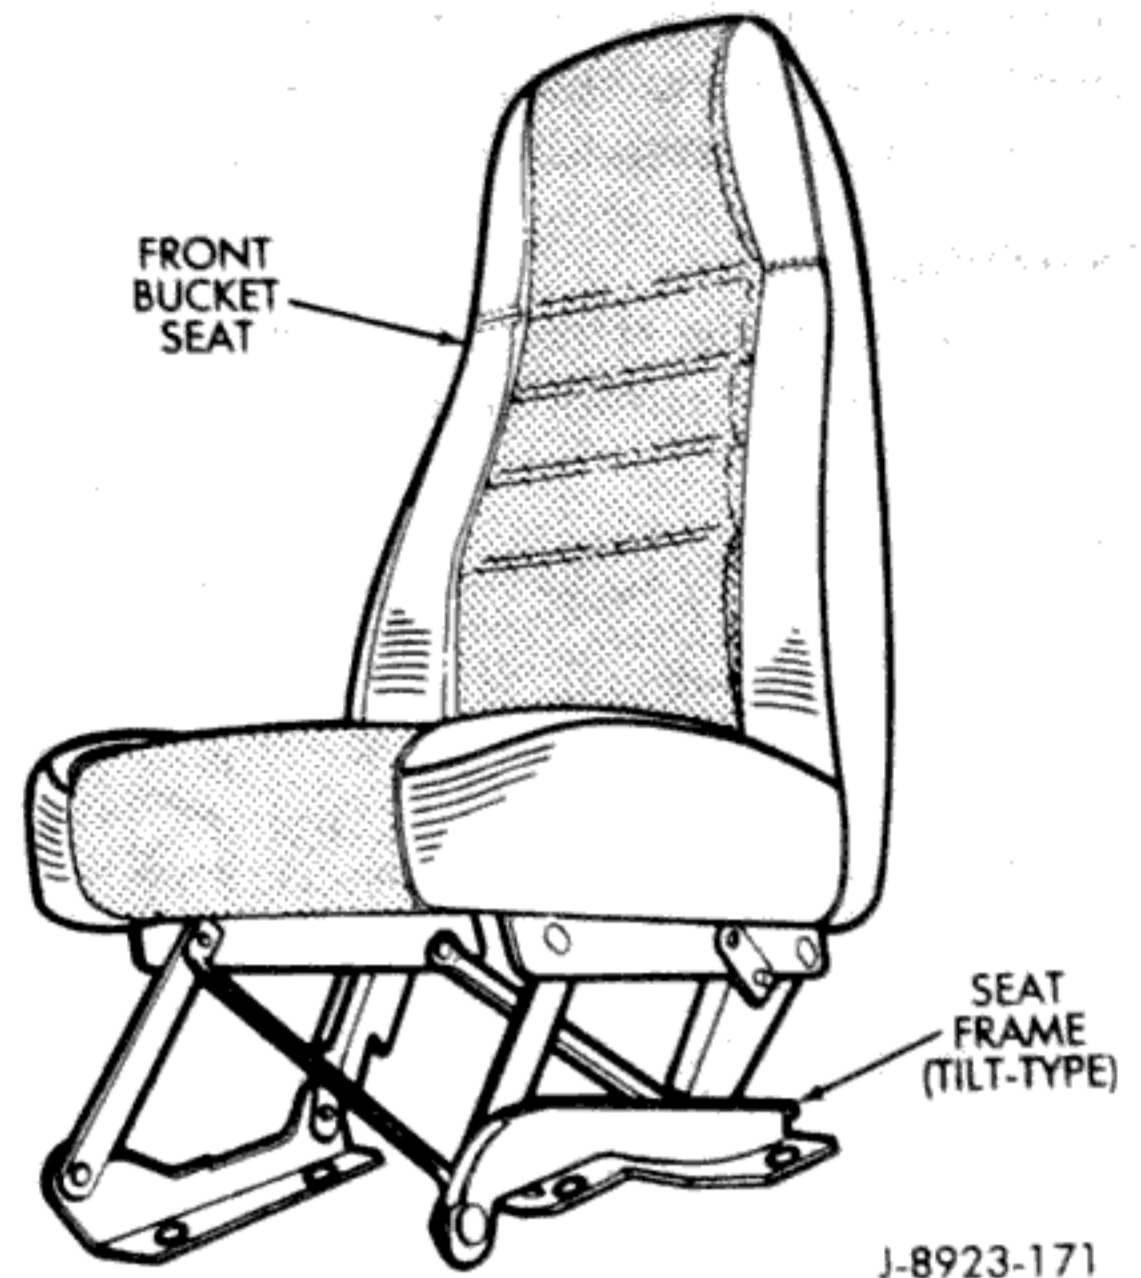

Fig. 1 Passenger-Side Bucket Front Seat
The passenger-side (RH), front bucket seat frame is the tilt-type (Fig. 1). The driver-side (LH) seat is fixed in-place. Both the passenger-side (RH) seat and the driver-side (LH) seat have fore-and-aft track adjustment.